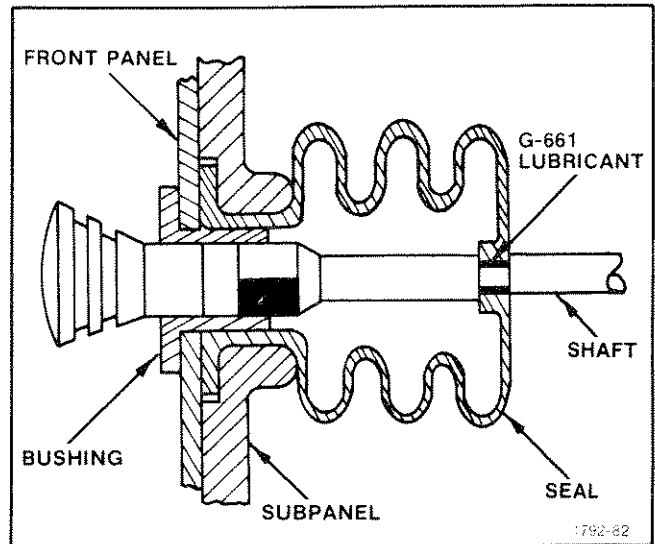

Fig. 5-29. Installation of the POWER switch.
**26. Install Power Switch Shaft into Front Panel (see Fig. 5-29)**
3. Install as shown in Fig. 5-29.